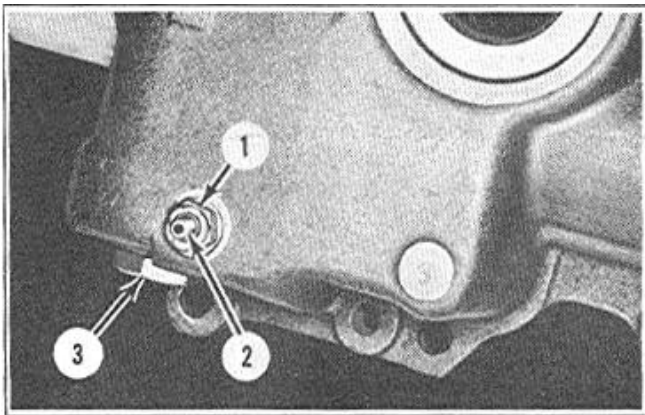

FIGURE 41
9. If the clearance is incorrect, remove the acorn nut located on the rear of the extension case, loosen the lock nut (1), Figure 41, and turn the screw (2) in (clock-wise) until the proper clearance is obtained.
3. Withdraw the governor control shaft and lever through the top of the extension case. If the shaft sticks in the governor control detent cam, remove the governor control shaft bushing (3), Figure 41, (7/8" wrench) and with a brass drift tap the shaft out of the governor control detent cam.
**NOTE:** It may be necessary to back off the governor control shaft and lever adjusting screw (2), Figure 41, to allow for clearance when removing the plunger assembly.